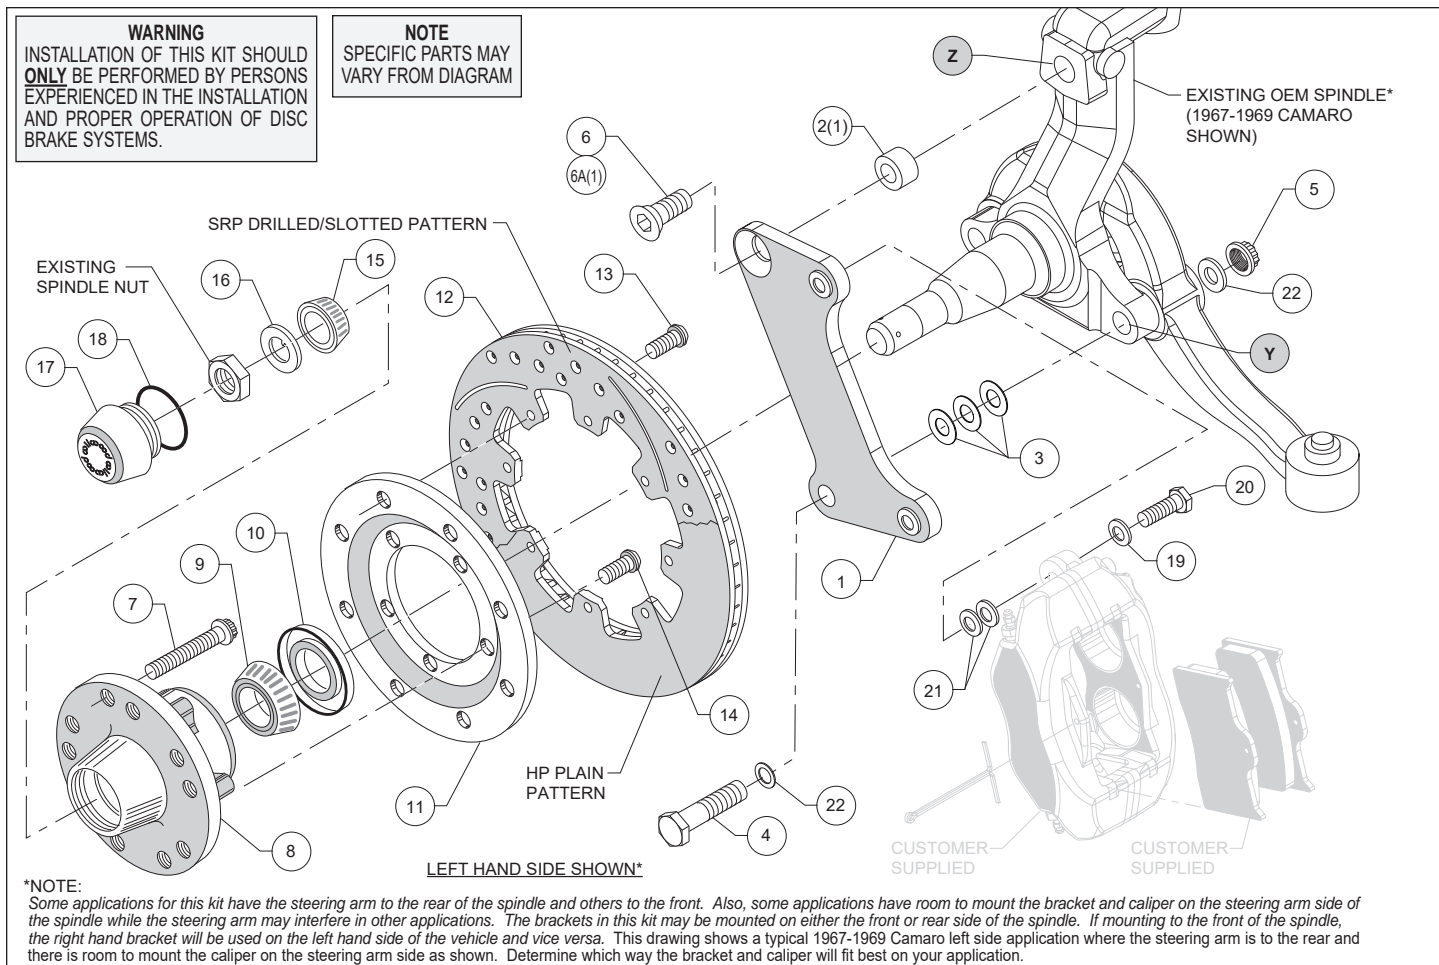
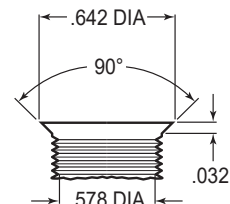
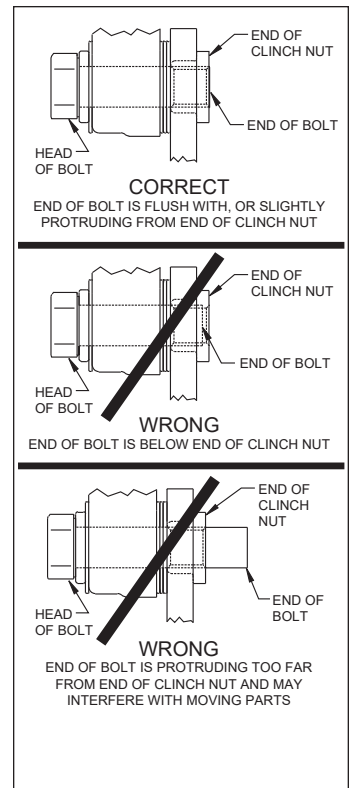

Figure 1. Typical Installation Configuration
Figure 3. Drill and Tap Detail
Figure 4. Clinch Nut Engagement Diagram
Assembly Instructions (numbers in parenthesis refer to the parts list and Figure 1 on the preceding page): **CAUTION:** All mounting bolts must fully engage clinch nuts. Be sure to check that all bolts are either flush or protruding through flanged side of clinch nut after shimming, Figure 4.
•**NOTE:** Some applications for this kit have the steering arm to the rear of the spindle and others to the front. Also, some applications have room to mount the bracket and caliper on the steering arm side of the spindle while the steering arm may interfere in other applications. The brackets in this kit may be mounted on either the front or rear side of the spindle. If mounting to the front of the spindle, the right hand bracket will be used on the left hand side of the vehicle and vice versa. Figure 1 shows a typical 1967-1979 Camaro left side application where the steering arm is to the rear and there is room to mount the caliper on the steering arm side as shown. Determine which way the bracket and caliper will fit best on your application.
•**NOTE:** Some spindles in this year range may require the following modifications (reference Figure 1 and Figure 3): Top anchor pin hole (Z) must be drilled and tapped to the dimensions as outlined in Figure 3. The lower bolt hole (Y) in the spindle used to mount the new caliper bracket, and the mating steering arm hole, must be enlarged to .50" by drilling. It is recommended these modifications be performed by a qualified machinist.
•Install wheel studs (7) into the hub (8), Photo 1. Torque to 77 ft-lb. **NOTE:** There are two five lug patterns in the hub (5 x 4.50 and 5 x 4.75). Ensure the correct hub stud pattern is being used to fit the wheel application.
- Pack the large inner bearing cone (9) with high temperature disc brake bearing grease (available from your local auto parts store) and install into the backside of the hub (8), Photo 2.
- Install the grease seal (10) by pressing into the backside of the hub (8), flush with the end of the hub, Photo 2.
- Orient the rotor (12) and the rotor adapter (11) as shown in Figure 1 and Photo 3. Attach the rotor to the adapter using bolts (13). Using an alternating sequence, apply red *Loctite*® 271 to the threads, and torque to 25 ft-lb.
- Mount the adapter/rotor assembly (11 and 12) to the hub (8) using bolts (14), as shown in Figure 1 and Photo 4. Using an alternating sequence, apply red *Loctite*® 271 to the threads, and torque to 45 ft-lb.
- Disc Brake Spindle Application Only:** Follow the instructions below, but instead use bolt (6A), and spacer (2) in the upper bolt hole location, Figure 1.
- Orient the flat bracket (1) as shown in Figure 1 and Photo 5, and install using bottom bolt (4), washers (22), and nut (5), Figure 1. Initially place three .032" thick shims (3) between the bracket and spindle. Install the upper bolt (6 or 6A), Photo 6. Temporarily tighten bolts. **NOTE:** *The bracket must fit squarely against the mounting surfaces on the spindle.* Inspect for interference from casting irregularities, machining ridges, burrs, etc. Ensure that the flanged heads of the clinch nuts in the bracket are facing outboard. Temporarily install the hub/rotor assembly. Check that the bracket is aligned parallel to the rotor, Photo 7. If not, adjust by adding or subtracting shims (3) on the lower bolt between the bracket and spindle, Figure 1. Once the bracket alignment is correct, remove the upper bolt (6 or 6A), apply red *Loctite*® 271 to the bolt threads, and torque to 120 ft-lb. Torque the lower lock nut to 65 ft-lb.
- Pack the small outer bearing cone (15) with high temperature disc brake bearing grease and install into hub (8). Slide the hub/rotor assembly onto the spindle. Secure using spindle washer (16) and OEM spindle nut, Photo 8. Adjust bearings per OEM specifications. Install saved OEM nut lock (if any) and a new cotter pin (not included).
- Screw dust cap (17) into hub (8). Friction created by the o-ring (18) on the dust cap keeps it from unscrewing. **NOTE:** *The O.D. of the existing OEM spindle washer may be larger than the I.D. of the dust cap not allowing it to seat against the hub face. Therefore, use the spindle washer (16) supplied with the kit instead of the OEM washer.*
- NOTE:** *Please reference the caution statement at the beginning of the assembly instructions.* Mount the caliper (customer supplied) onto the caliper bracket (1) using bolts (20) and washers (19), as shown in Figure 1. Initially place two .035" thick shims (21) on each bolt between the caliper and the bracket. Temporarily tighten the mounting bolts and view the rotor (12) through the top opening of the caliper. The rotor should be centered in the caliper. If not, adjust by adding or subtracting shims (21) between the bracket and the caliper. Always use the same amount of shims on each of the two mounting bolts. **NOTE:** *The end of the bolt must be flush with or slightly protruding from the head of the clinch nut in the bracket.* If necessary, place spare shims between the washer and the caliper mounting ear to achieve the proper clinch nut engagement, as shown in Figure 4. Once the caliper alignment is correct, remove the bolts one at a time, apply red *Loctite*® 271 to bolt threads, and torque to 40 ft-lb.
- Install the disc brake pads (customer supplied) into the caliper, with the friction material facing the rotor (12) and secure in place using cotter pin (customer supplied).